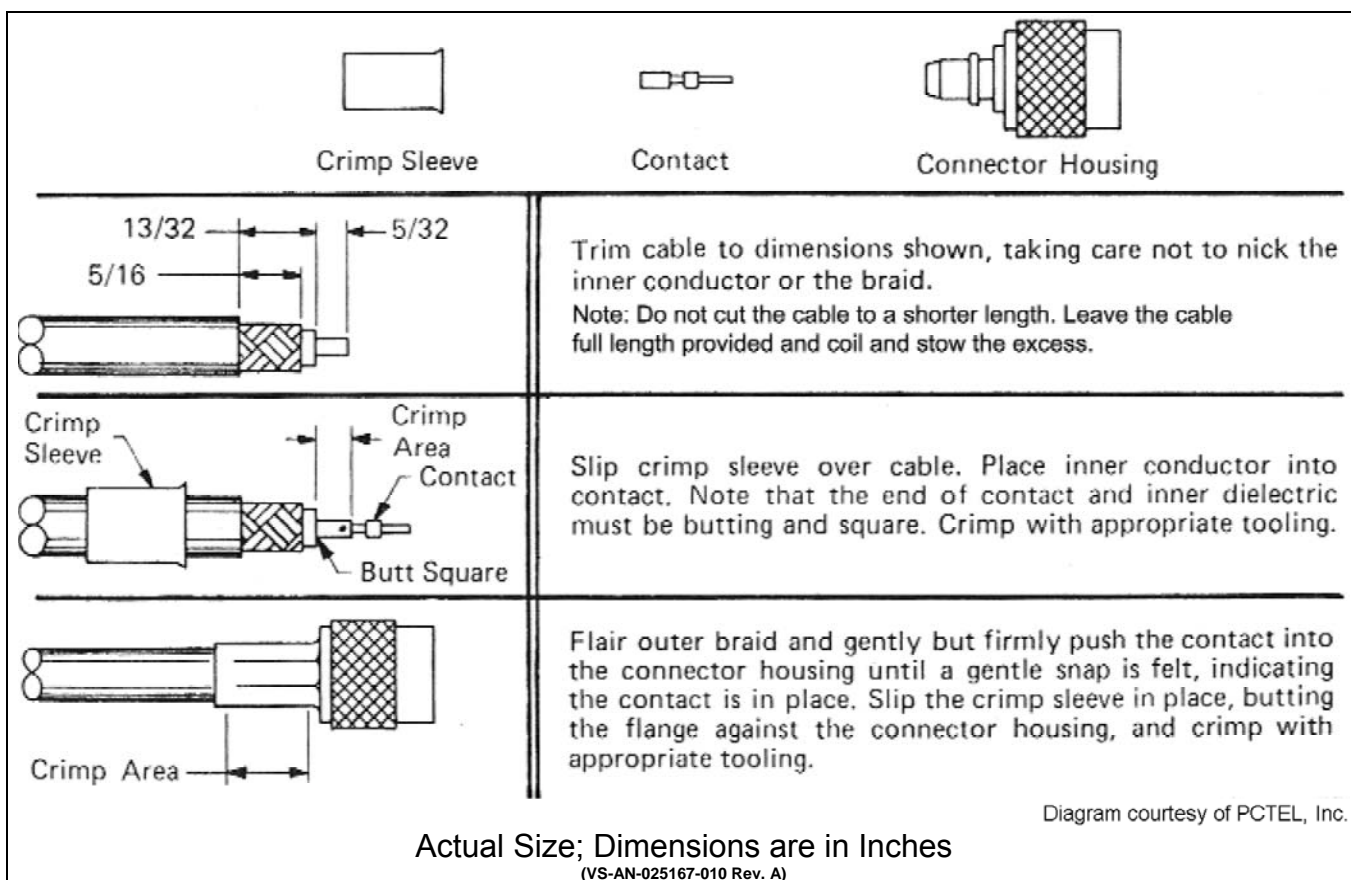

Figure 7-4: Crimping Instructions for TNC RF Connector
2. Using an appropriate crimp tool, crimp the supplied TNC RF connector to the end of the antenna cable. For crimping instructions, see Figure 7-4 or the instructions supplied with antenna mount.